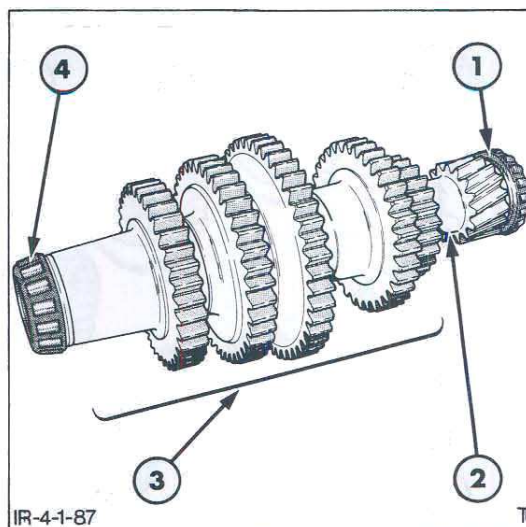
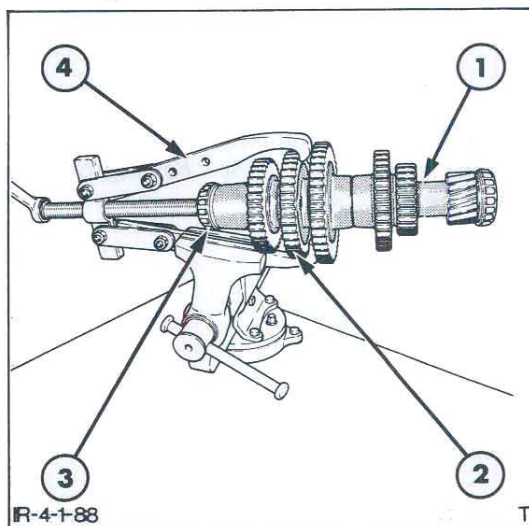

Figure 87
Figure 88
1. Remove the countershaft front bearing, thrust washer and gears, Figure 87, using a puller, Tool No. 1003 or 9516 with shaft protector Tool No. 625A or 9212 as shown in Figure 88.